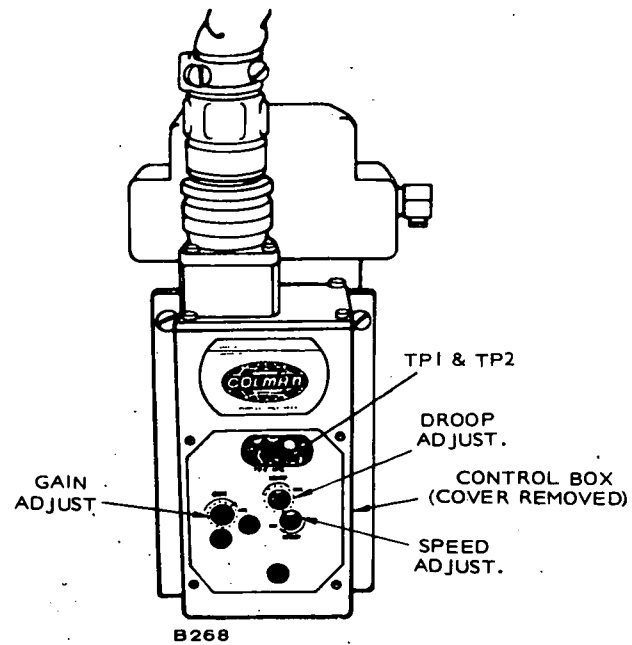

FIGURE 25A. GOVERNOR ADJUSTMENT
6. Adjust speed reference potentiometer in governor controller counterclockwise four complete turns. Refer to Figure 25A.